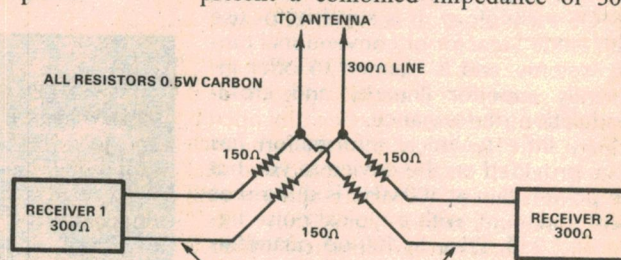

FIG. 1 FOR TWO RECEIVERS
*Fig. 1. The simplest arrangement, which will suit most domestic situations. The loss to each receiver is small and should not be a problem in the average suburban location.*
operation for two, three or four receivers each having 300 ohm input impedance is shown in Figs. 1, 2 and 3.
The shielding effect of the outer metal braid will normally improve the conditions mentioned but will attenuate the signals to a somewhat lower level than with the system illustrated in Figs. 1 to 3.
For the system shown in Figs. 1 to 3, it is best to group all the resistors together in one location with individual lines radiating to each receiver.